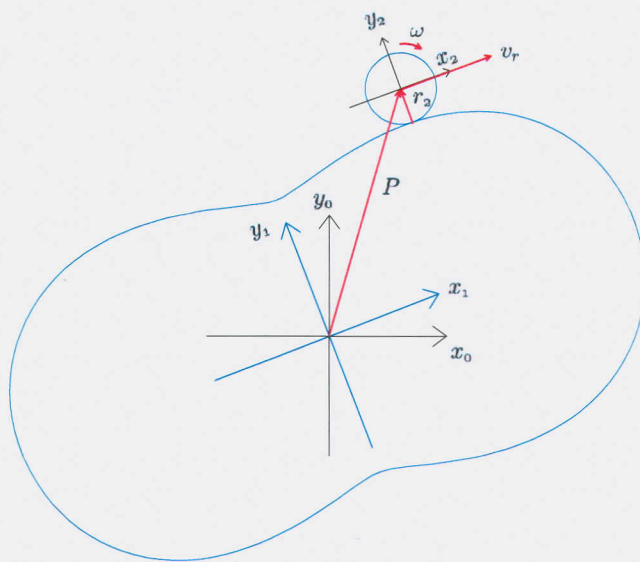

Figure 5: The schematic view of the Butterfly robot, when the ball is modeled as a disc rolling without slipping on the contour.
- (e) Suppose that the ball is modeled as a disc of a mass  $m$  rolling without slipping on the contour, see Fig. 5.
- i. Is this mechanical system holonomic or not? Clarify the answer. (5)
- ii. How many degrees of freedom will the system have? Clarify the answer. (5)
- iii. Under what condition would the ball depart from the contour? Clarify the answer. (5)